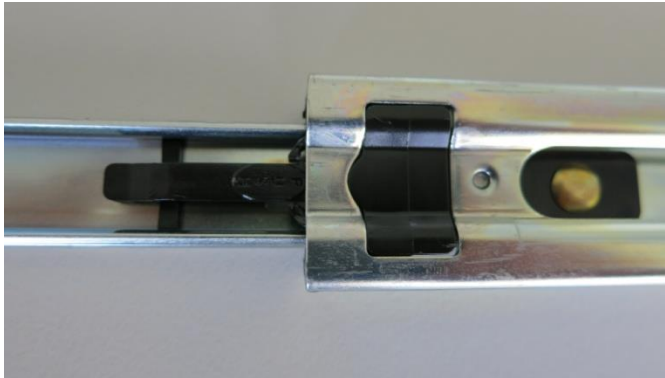

Figure 67 – Separate Rack Slides
2. Separate the slide rail assembly by pressing the black plastic clips in the slide rails to remove the inner section of the rail (refer to Figure 67).